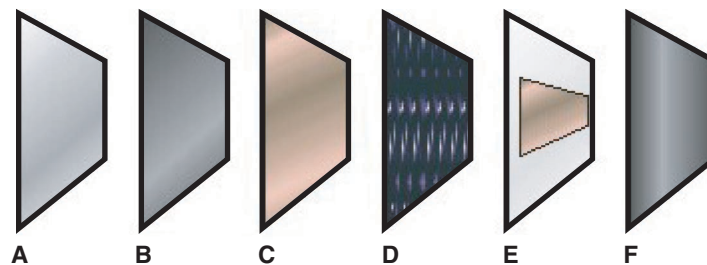

Figure 1
The working of a simple LCD is shown in Figure 1. It has a mirror (A) in back, which makes it reflective. There is a piece of glass (B) with a polarizing film on the bottom side, and a common electrode plane (C) made of indium-tin oxide on top. A common electrode plane covers the entire area of the LCD. Above that is the layer of liquid crystal substance (D). Next comes another piece of glass (E) with an electrode in the shape of the rectangle on the bottom and, on top, another polarizing film (F), at a right angle to the first one.